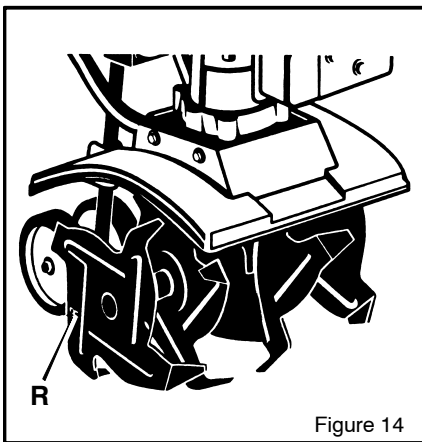

Figure 14
3. When the tines are properly installed, the letter **R** will be visible on the outside of the **right tine** (see Figure 14). The letter **L** will be visible on the outside of the left tine.